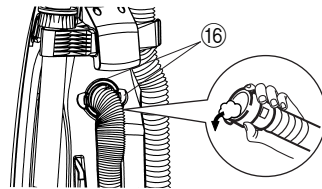

Fig.15
*FLEXIBLE HOSE (Fig. 15)
1. To disconnect flexible hose from the suction inlet, press two joints ⑯ firmly.